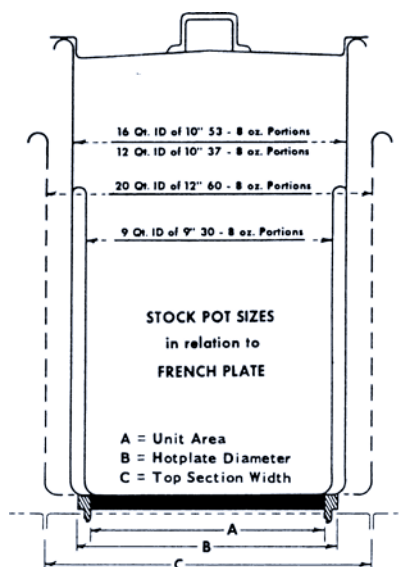

Fig. 7
French plates are most efficient when used with utensils having a maximum inside diameter of 10" (254) or a minimum inside diameter of 9" (229). Stock pots of 9, 12 and 16 qt. capacities are recommended for bulk cooking. (Fig. 7)